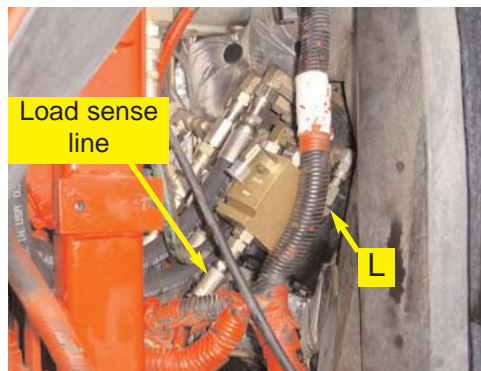

Figure 8c. Installed load sense valve.
d. Install port **B** (fitting **L**) of the load sense valve to the load sense port (or run tee) on the orbital. Reattach the load sense line to port **A** (fitting **J**) of the load sense valve. (Figure 8c.)